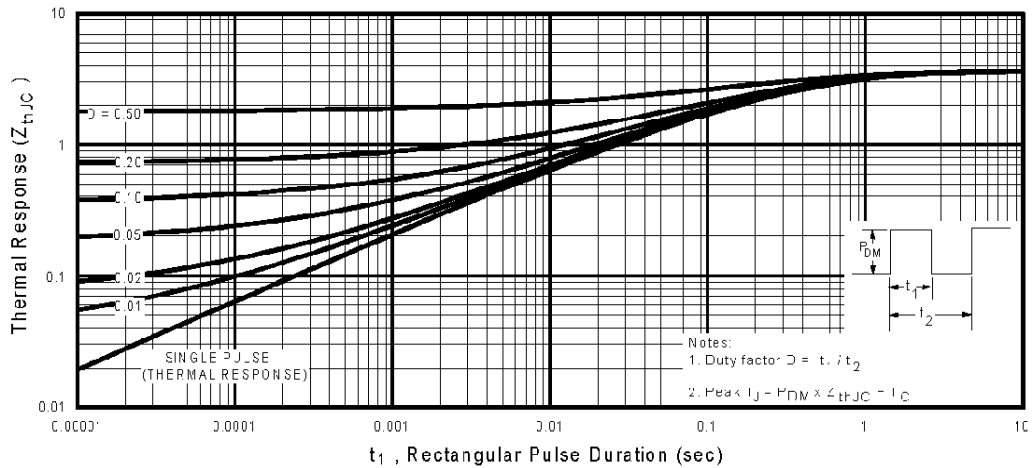

Fig 11. Maximum Effective Transient Thermal Impedance, Junction-to-Case
① Repetitive rating; pulse width limited by max. junction temperature. (See fig. 11)
② Starting T_J = 25°C, L = 62mH